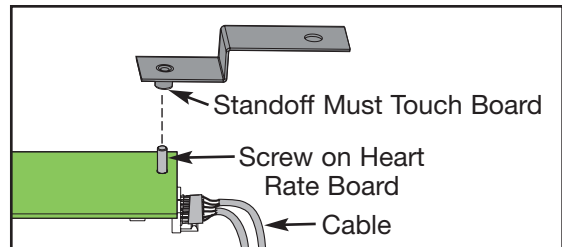

Figure 29
- A. Place the screw removed during step 5C into the heart rate board from the bottom. See Figure 29.
- B. Place the short end of the new heart rate bracket over the screw on the heart rate board with the standoff touching the board. See Figure 29.